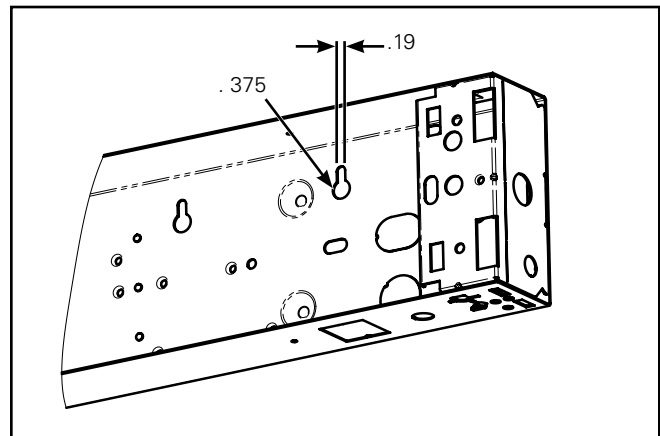

Figure 3.
1. Orient the fixture such that the key-hole slots in the bottom surface of the channel are upright. (Holes to the bottom and slots pointing upward). (Figure 3)